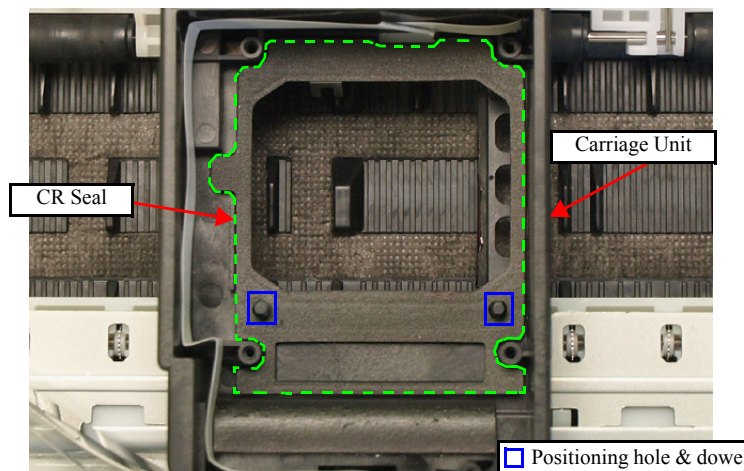

Figure 4-59. Installing the CR Seal
- Do not damage or contaminate the CR Seal, or touch it with bare hands either. (See Fig. 4-59.)
1. Make sure of the installing condition and correct it if there is any gap. (See Fig. 4-59.)